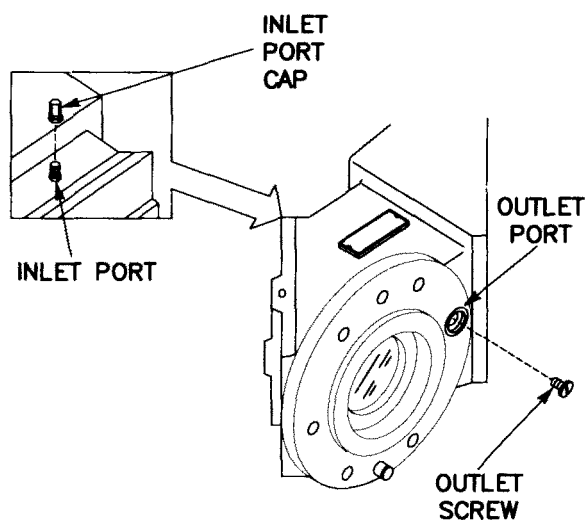

Figure 3-29 M42 Tank Periscope - Modified Production
(3) Modified Production (fig. 3-29). Refer to para 3-10.h.(2) above for procedures.